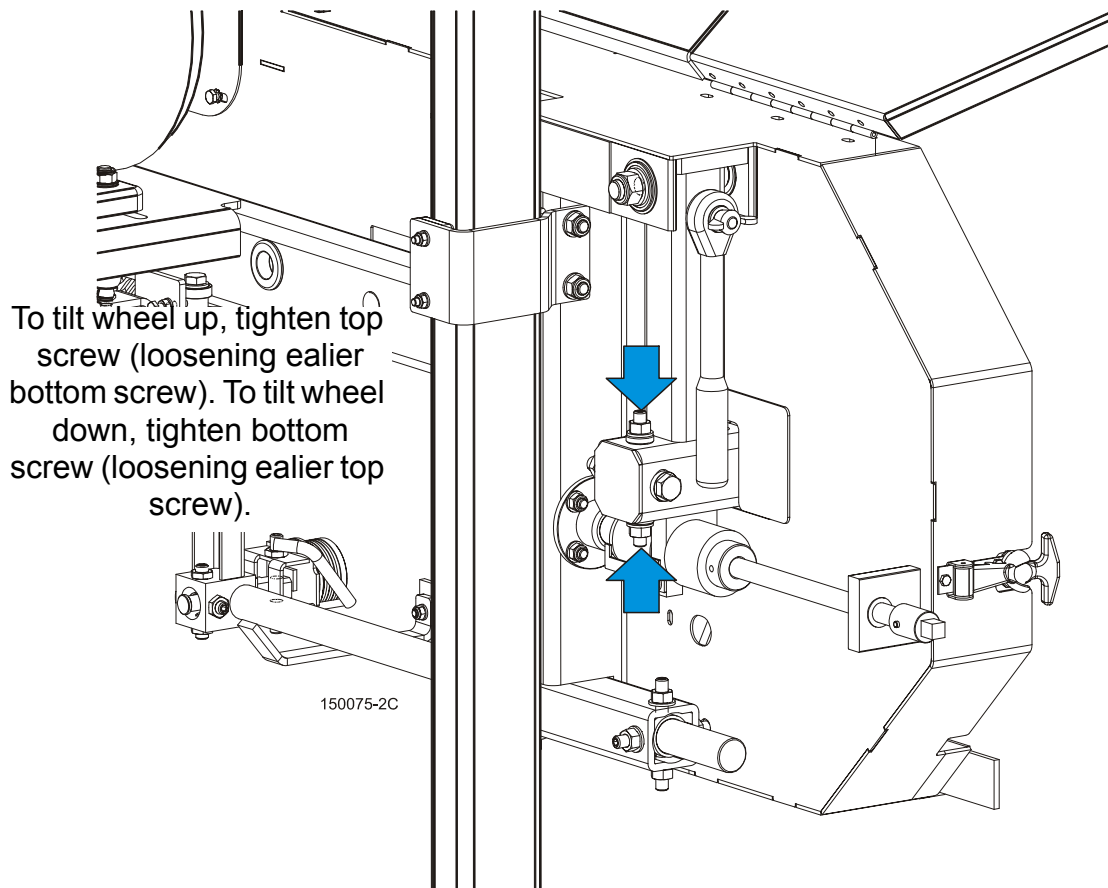

FIG. 3-4
- If the two measurements differ by more than $1/16$ " (1.5 mm), adjust the vertical tilt of the idle-side blade wheel. See Figure 3-4.
See Figure 3-4. To tilt the idle-side blade wheel up, loosen the bottom adjustment screw 1/2 turn. Loosen the nut on the top adjustment screw and tighten the screw. Tighten the top and bottom nuts.